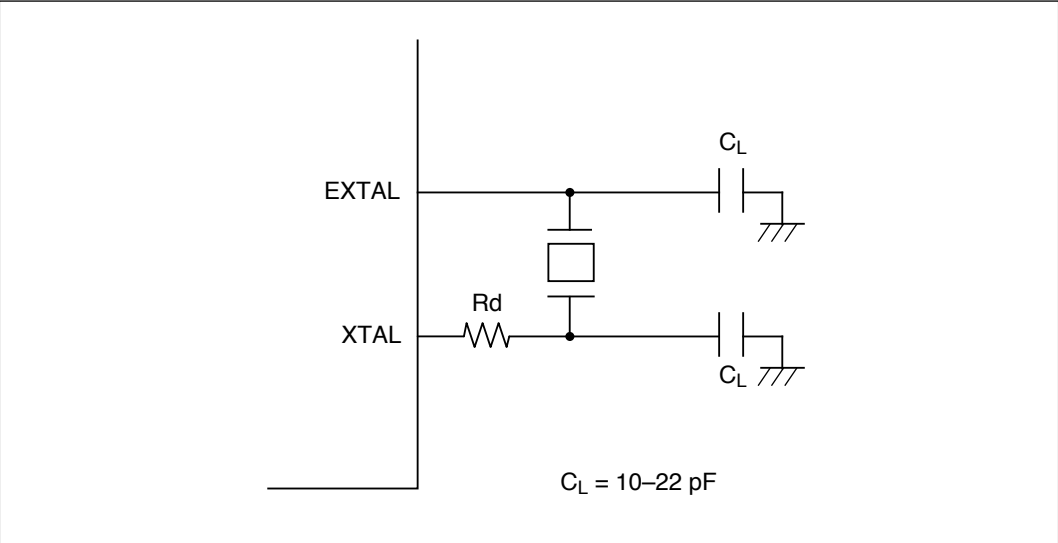

Figure 8-2 Connection of Crystal Resonator (Example)
(1) Circuit Configuration: A crystal resonator can be connected as in the example in figure 8-2. An AT-cut parallel resonating crystal should be used. See table 8-1 for the damping resistance.